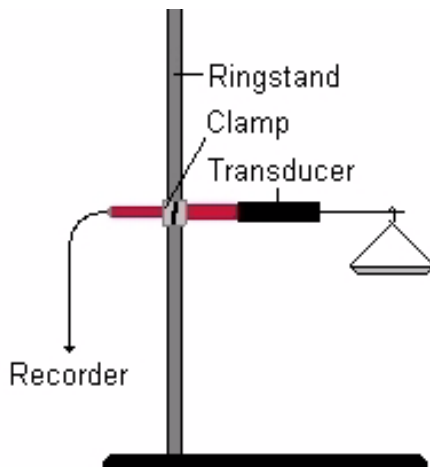

Figure FB-1-3: Equipment setup to record weight placed in a pan.
- 3 Attach the transducer to a ring stand using a 90° clamp, so that the transducer is horizontal (Figure FB-1-3 on page FB-1-2).
- 9 Repeat Steps 2 through 8 to find the weights of the other two worms weighed in this exercise. Record the weights in the **Journal** and on Figure FB-1-3 on page FB-1-4.